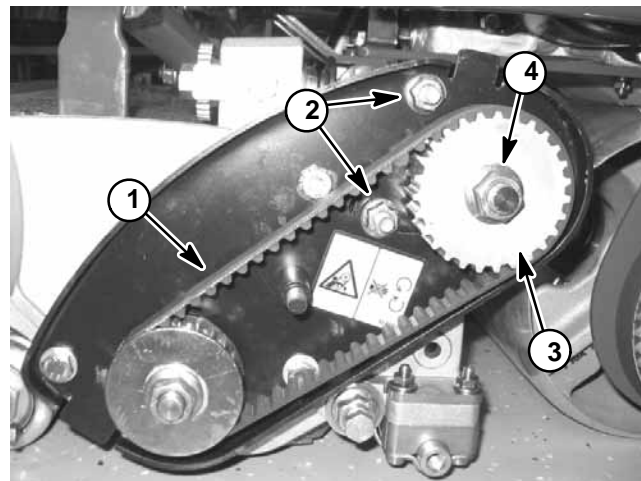

Figure 4
4. Remove flange nut that secures pulley to the shaft (Fig. 4 and 5). Slide pulley (and pulley washer if equipped) from the shaft. Remove woodruff key and spacer.